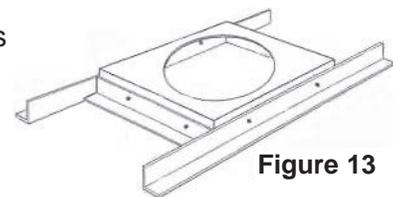

Figure 13
- A tee (RT with a tee cap, RTC) should be used at the lowest point of the liner. A welded angle iron frame (by others) mortared into the chimney walls should be used with the support assembly. (See Figure 13.) Through-bolt the support assembly into the frame with ¼-20 nuts and bolts (by others) in all holes. Place the supporting collar in the groove at the bottom of the tee just above the locking ring. (See Figure 1.) Tighten the screw so that the collar is firmly clamped into position in the groove. The tee is ready to fit into the support plate.